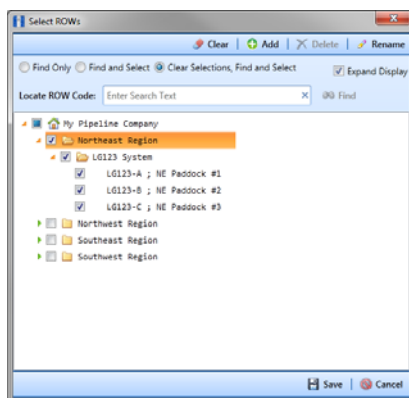

Figure 2-46. Select ROWs
- 1 Click **File > Select ROWs** to open the *Select ROWs* window. Select one or more pipeline segments and then click  **Save** to close the window (Figure 2-46).
- 1 Click **File > Select ROWs** to open the *Select ROWs* window. Select one or more pipeline segments and then click  **Save** to close the window (Figure 2-46, page 82).